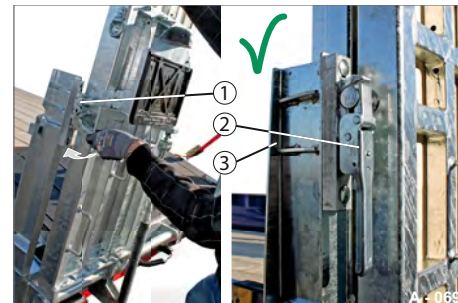

Fig. 106 Securing the drive-up ramp
- ▶ If necessary, slide the ramp outwards towards the corner post (Fig. 106/3).
- ▶ Insert the gudgeon (Fig. 106/1) on the ramp in the securing latch (Fig. 106/2).